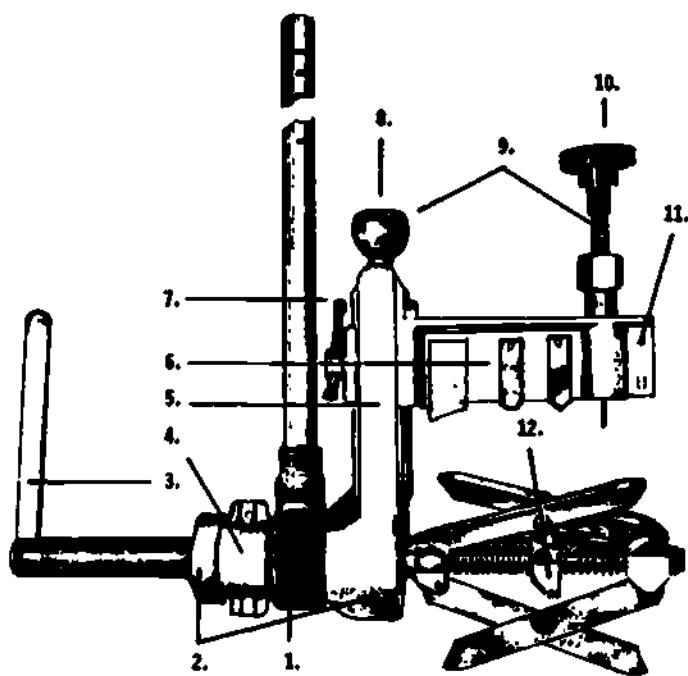

Figure 1-74. Field Lathe
- b) The field lathe shown in Figure 1-74 trims and machines the ends of pipe from NPS 3 to NPS 8.